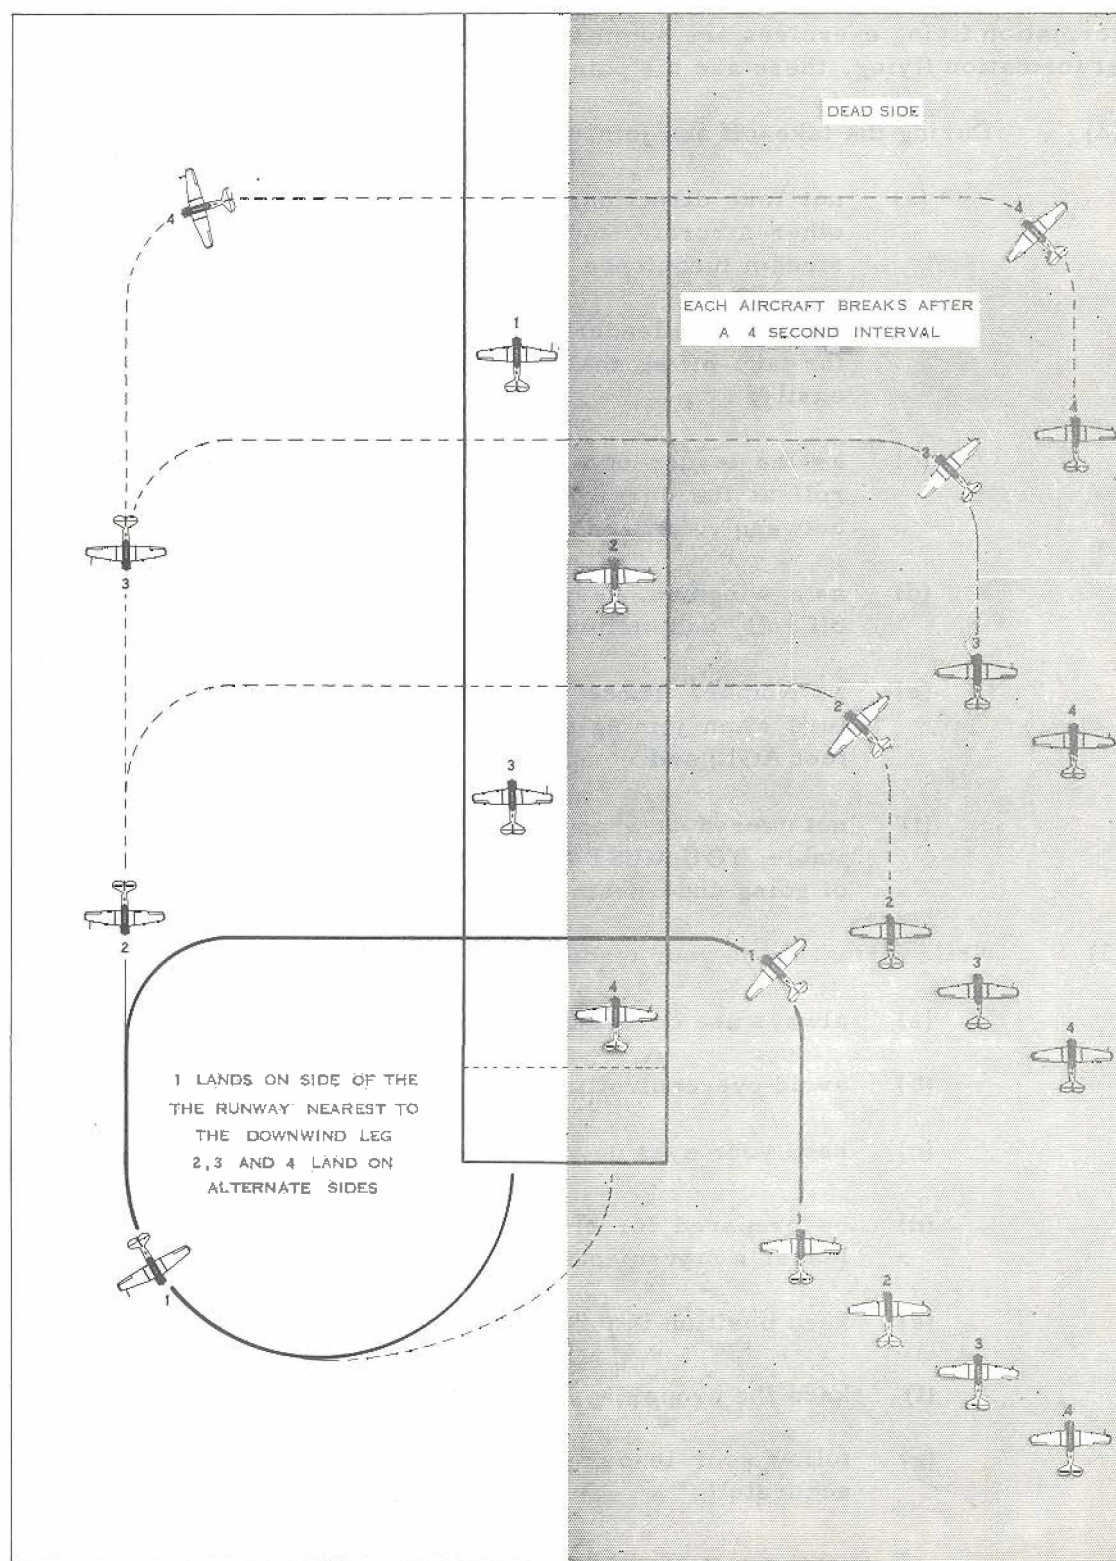

Figure 16: The Four-Plane Formation Circuit
(1) Before entering the circuit area the section must be in Echelon formation so that each aircraft can break at the proper time. The entry and let-down are made on the dead side, with the section flying into wind, parallel to the runway in use. The leader breaks as described in Art 17.09 (2), followed by each member of the formation at the end of his designated time interval. (Figure 16.)
(2) Having completed the break, and having turned onto the down-wind leg, each pilot has an individual responsibility for spacing his aircraft correctly, and for flying the regulation traffic pattern at the altitude specified in local orders. The leader for his part must make his initial break early enough to give the last man time to follow, in turn, before passing the up-wind end of the runway.
(3) Landings are to be made on alternate sides of the runway, or, if two runways are in use, on alternate runways, the leader always taking the side, or runway, nearest to the down-wind leg. If any pilot fails to line-up with his designated landing path, he must overshoot and complete another circuit. Before turning-off across the runway, each pilot must look back to see that the runway is clear, and that he is not being overtaken by another aircraft landing behind him. Normally at FTS, local orders prohibit two aircraft landing in stream on the same runway.